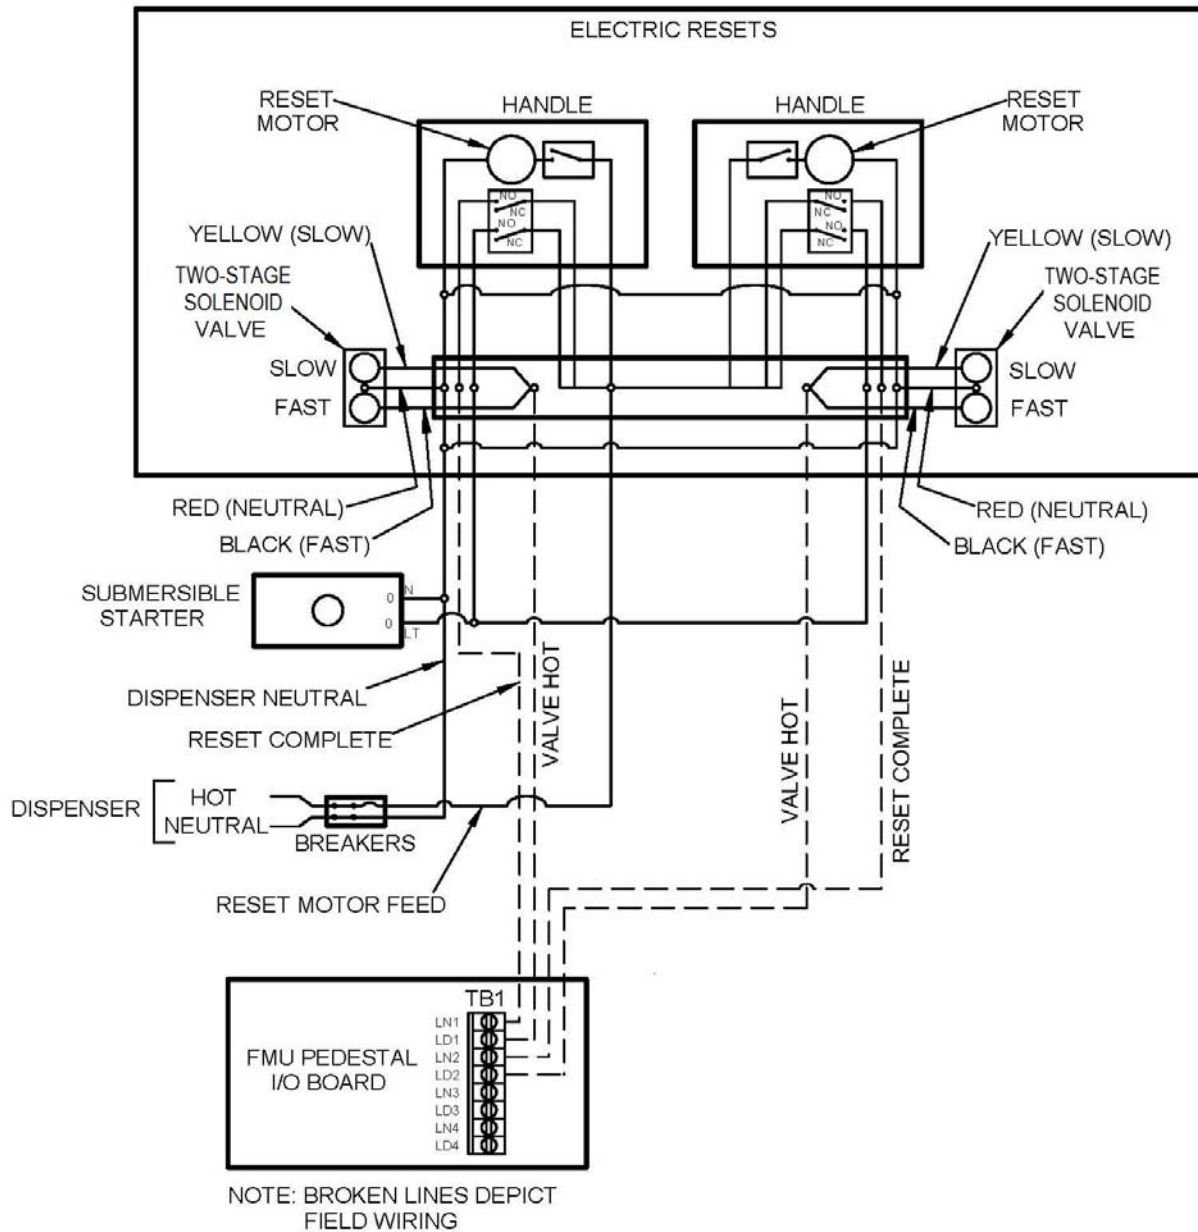

Figure 4-11. Wiring Diagram – Controlling Solenoid Valves
- c. **Controlling Solenoid Valves.** See Figure 4-11. When controlling a classic or DoD FMU, and pump handle detection is needed, the control method most likely used will be controlling motors or controlling solenoid valves. When solenoid valves are present, they should be controlled. There must be one solenoid valve per hose. Solenoid control interrupts power from the dispenser reset mechanism to a solenoid valve. This control method has a drawback. It will permit dispenser reset and pump motor activation without authorization. If a user does not turn off the pump handle when the transaction is complete, the reset and pump motor will continue to run. This can result in a pump motor overheating. Pump handle detection is possible from all variations of FMUs.
Solenoid valves may be single or two-stage. A two-stage valve is illustrated in Figure 4-11. Single stage valves will have two wire leads which are not polarity sensitive, usually both black. Power is wired to one lead, and neutral to the other. Two-stage valves have three leads: a neutral and separate inputs for the fast and slow side of the valve. Presets for retail transactions will make use of two-stage valves to ensure credit card payments by retail customers don't exceed the requested amount. When the two-stages do not need to be separately controlled, they may be tied together as shown in Figure 4-11.